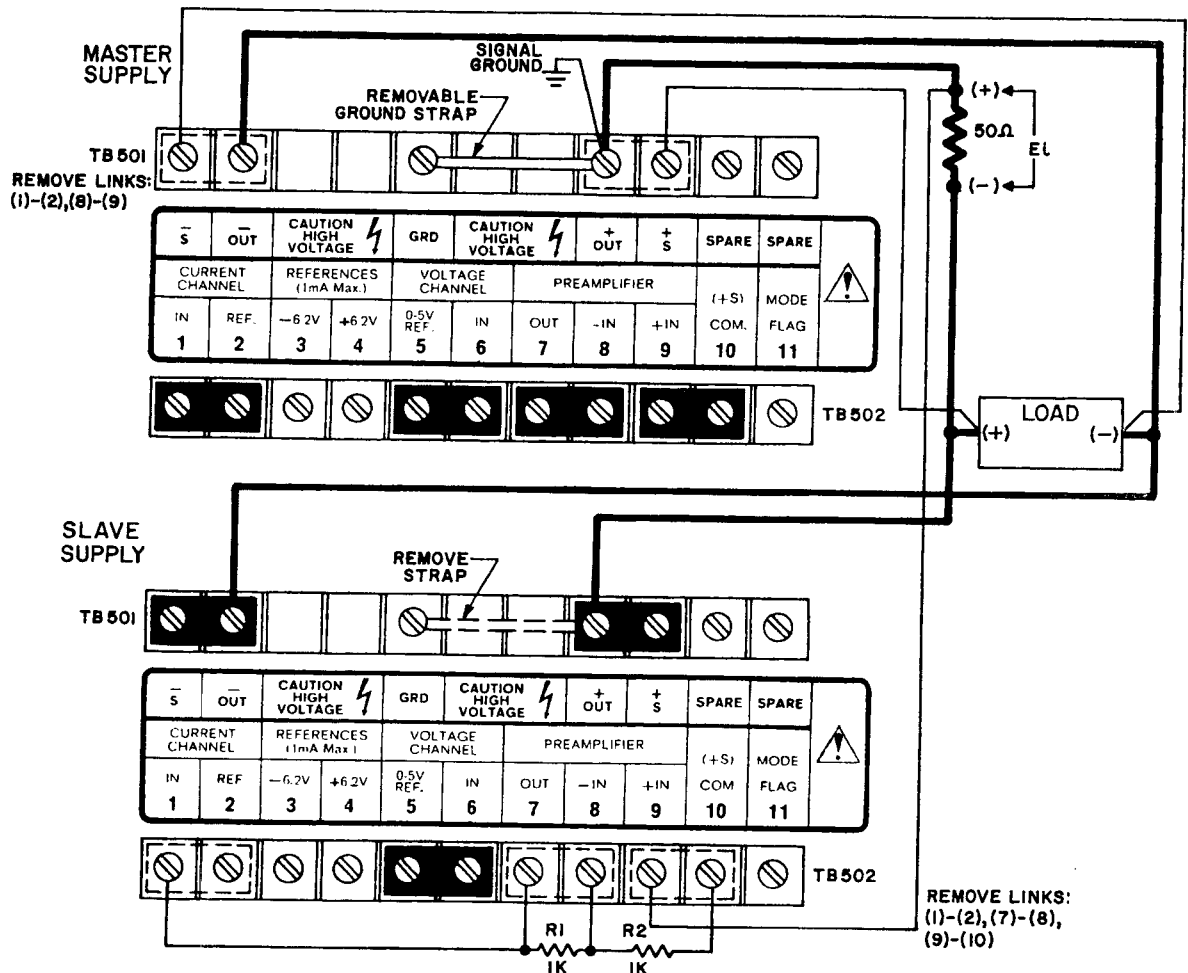
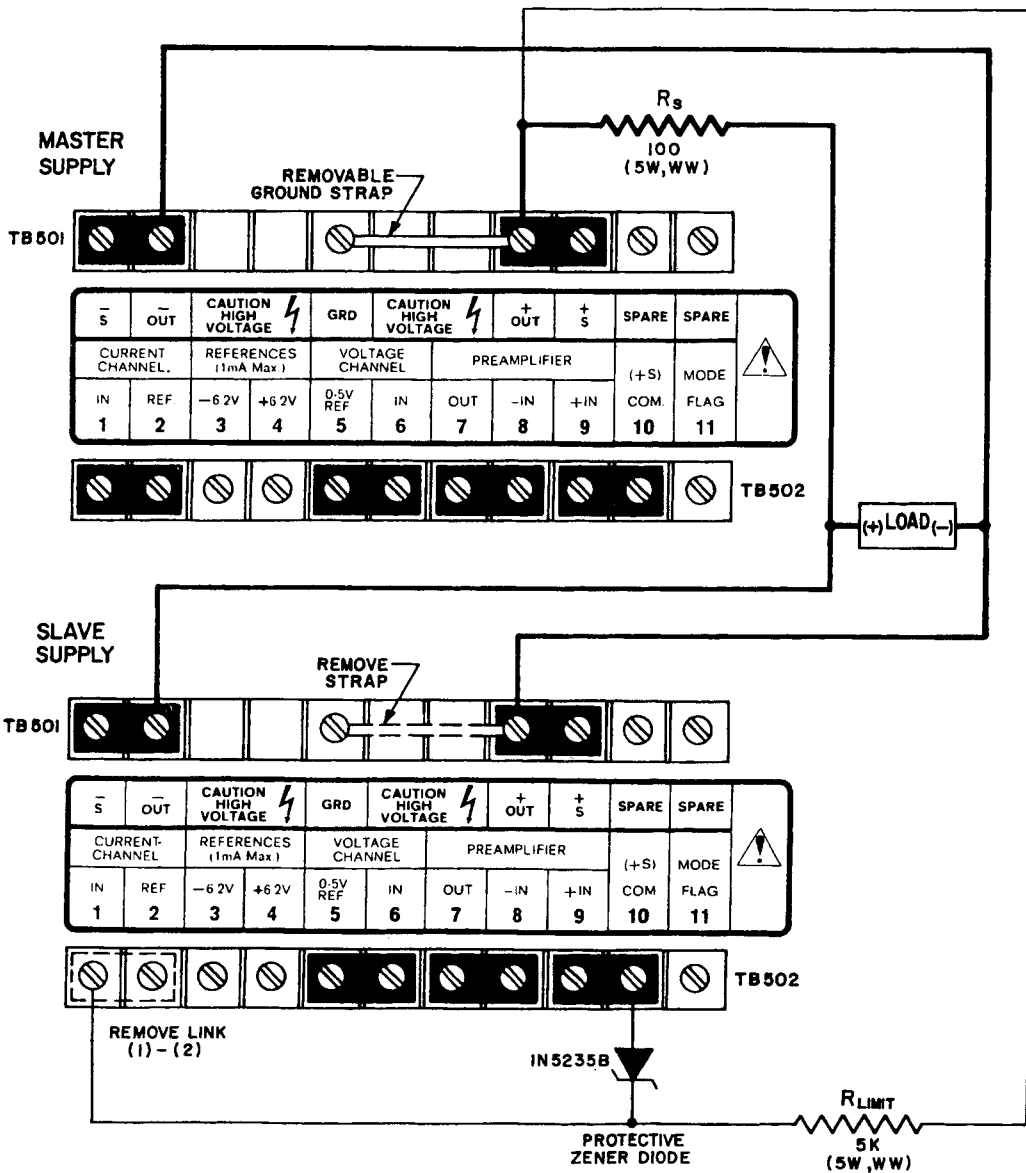

FIG. 3-15 "MASTER/SLAVE" PARALLEL CONNECTION OF TWO APH POWER SUPPLIES (VOLTAGE MODE)
FIG. 3-16 MASTER/SLAVE PARALLEL CONNECTION OF TWO APH POWER SUPPLIES (CURRENT MODE)
- 3-50 MASTER/SLAVE PARALLEL CONNECTION. In this mode of operation, the output is controlled by the designated MASTER supply, while the SLAVE supply follows the MASTER in a ratio determined by resistor selection. Two methods are shown in the following paragraphs, one (Method 1) with the SLAVE pre-amp driving the Main Voltage Amplifier (while the Current Control amplifier is left free to be programmed) and the other (Method 2) with the SLAVE pre-amp driving the Current Control Amplifier (while the Main Voltage Amplifier is left free to be programmed). Method 2 is shown for two applications, one more suitable for operation in the Voltage Mode (FIG. 3-15), the other for optimum performance in the Current Mode (FIG. 3-16).
3-53 MASTER/SLAVE PARALLEL CONNECTION, DRIVING THE SLAVE'S CURRENT CONTROL AMPLIFIER (Refer to FIG. 3-15). A sensing resistor ( $R_s = 12.5\Omega$  for APH 500M,  $R_s = 25\Omega$  for APH 1000M,  $R_s = 50\Omega$  for APH 2000M) is selected to drop 0.5 volt at the maximum APH output current. A resistor divider ( $R_1, R_2$ ) is selected to produce a 0-1 volt control voltage from the SLAVE pre-amp into the SLAVE current channel input as a function of the Master's current. Note: The SLAVE pre-amp is connected in the non-inverting configuration, to produce a *positive* control signal ( $E_p$ ) from a *positive* input signal ( $E_i = 0.5$  volt) from the sensing resistor. The pre-amp output is therefore:
- 1) Connect the supplies, the load and all other external components as shown in FIG. 3-15. Equal output current sharing between MASTER and SLAVE units may be adjusted by making  $R_1$  a rheostat.
3-56 MASTER/SLAVE PARALLEL CONNECTION, DRIVING THE SLAVE'S CURRENT CONTROL AMPLIFIER (Refer to FIG. 3-16). A sensing resistor ( $R_S = 100\Omega$  for APH 2000M,  $50\Omega$  for APH 1000M,  $25\Omega$  for APH 500M) is selected to drop 1.0 volt at the maximum APH output current.  $R_S$  is connected in series with the positive output terminal of the MASTER supply. The voltage drop thus produced, due to the MASTER'S output current (0–1 volt) is applied via the limiting resistor ( $R_{LIMIT} = 5K\Omega$ ) to the input of the current control amplifier of the SLAVE supply. The SLAVE output current is therefore exactly proportional to that of the MASTER. In the above example,  $R_S$  was selected to produce a 1:1 ratio of the MASTER and SLAVE output current, although other ratios can be selected by choosing  $R_S$  accordingly (1 volt at the input of the SLAVE current amplifier will produce maximum rated output current.)
- 1) Connect the supplies, the load and all other external components as shown in FIG. 3-16.